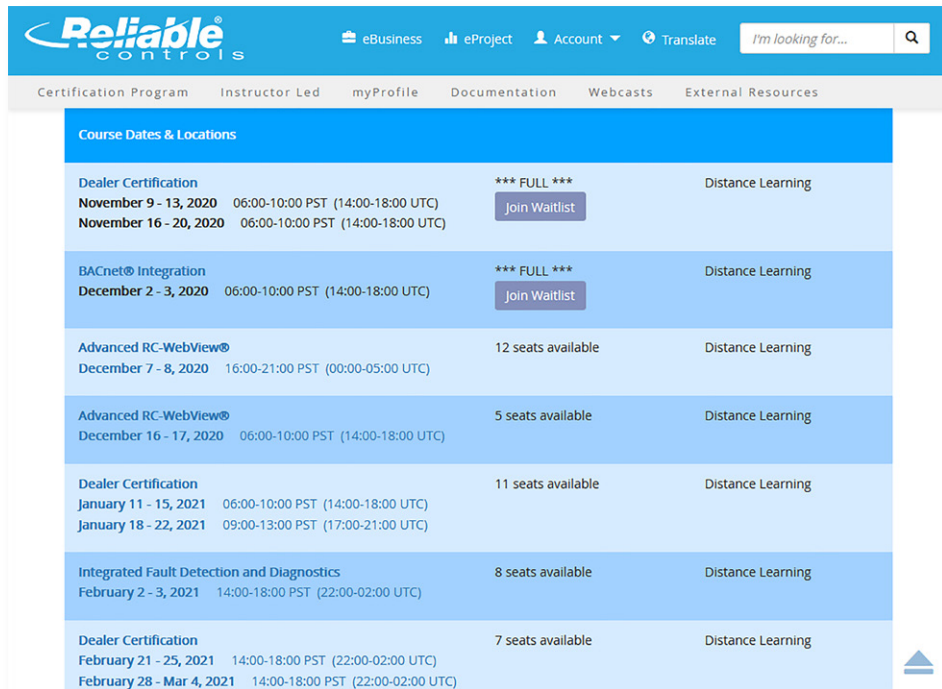
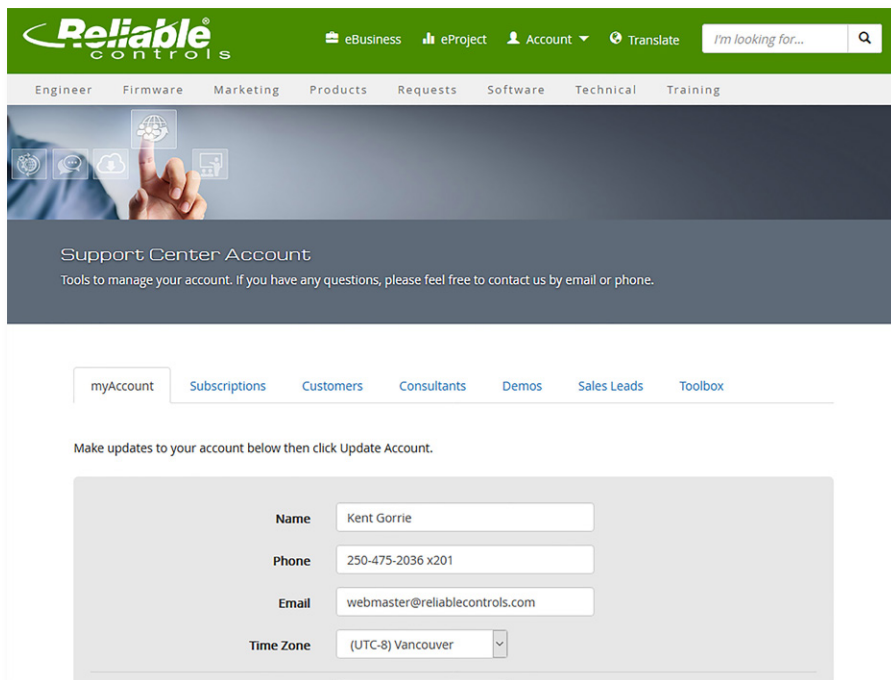

Figure 4: Local time zones and wait list functionality.
Figure 5: Set your local time zone in myAccount.
4. Learning Center Improvements: Distance learning courses are now listed in local times, and you can join a wait list for the next available class (Figure 4). You can also manually alter your time zone in myAccount (Figure 5). Under the External Resources tab, view and register for free webinars hosted by our peripheral partners.
Other animation attributes include the following (Figure 5):
Figure 5: Different styling attributes applied to the animation. Top row: The shield is in a closed position. Bottom row: The shield is open and the buttons are clickable.